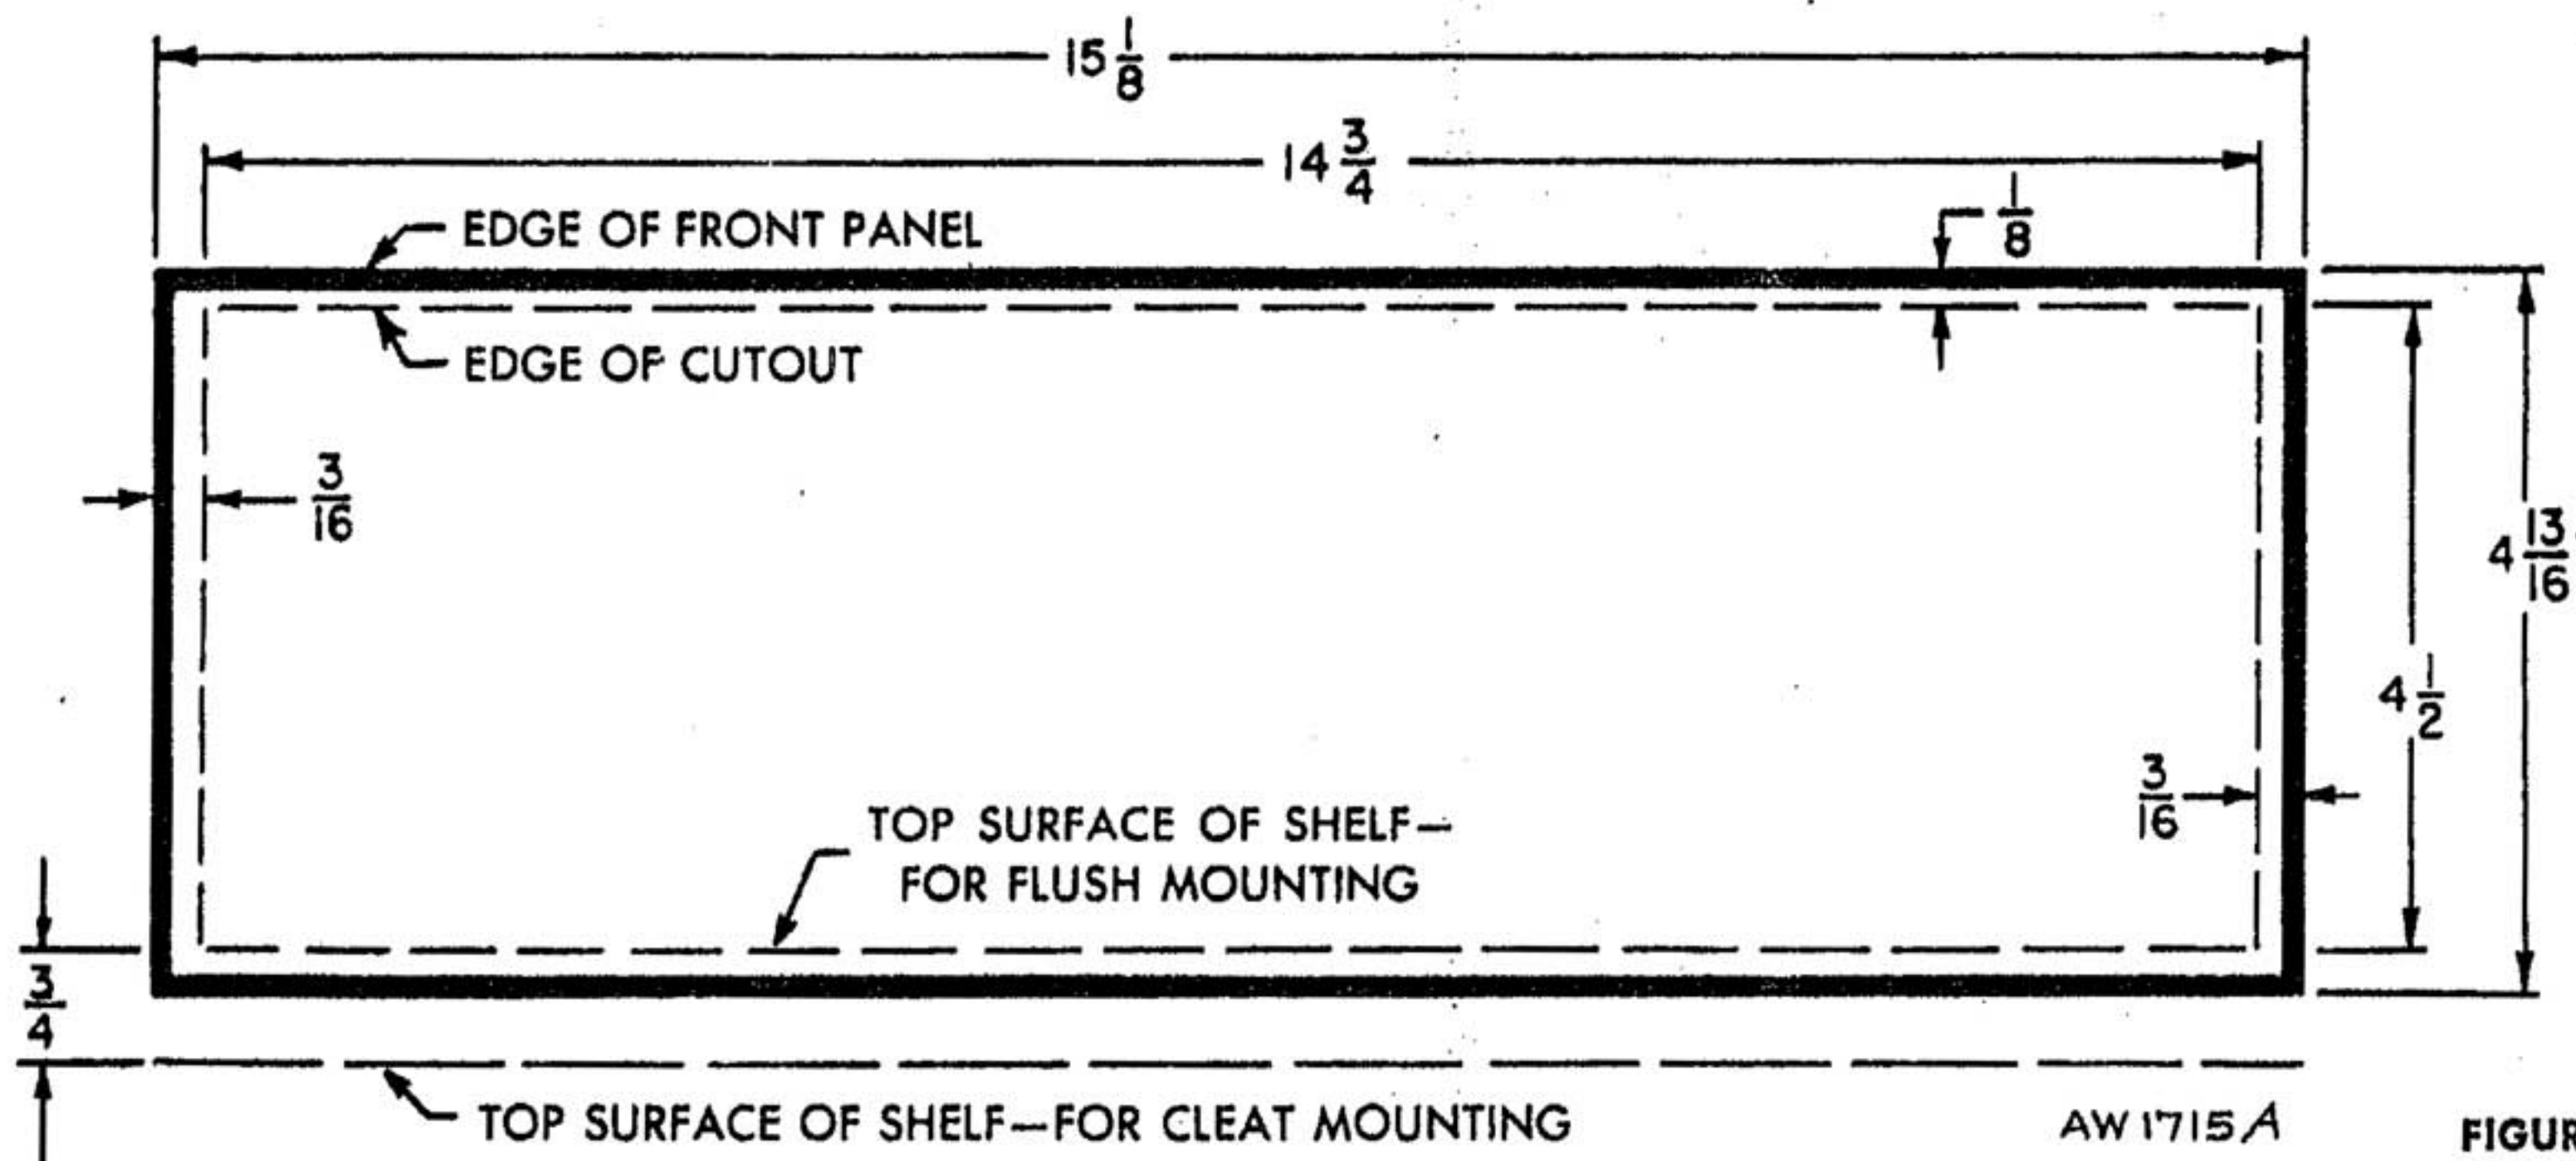

FIGURE 3. Front panel cutout.
- 3 — Saw a cutout through the front panel of your cabinet ($4\frac{1}{2}$ by $14\frac{3}{4}$) as shown in Fig. 3. The bottom edge of the cutout should be on a level with the top of the two cleats.
3—Saw a rectangular cutout through the front panel of the cabinet ($4\frac{1}{2}$ by $14\frac{3}{4}$) as shown in Fig. 3. Note that the bottom edge of the cutout is flush with the top of the mounting board.